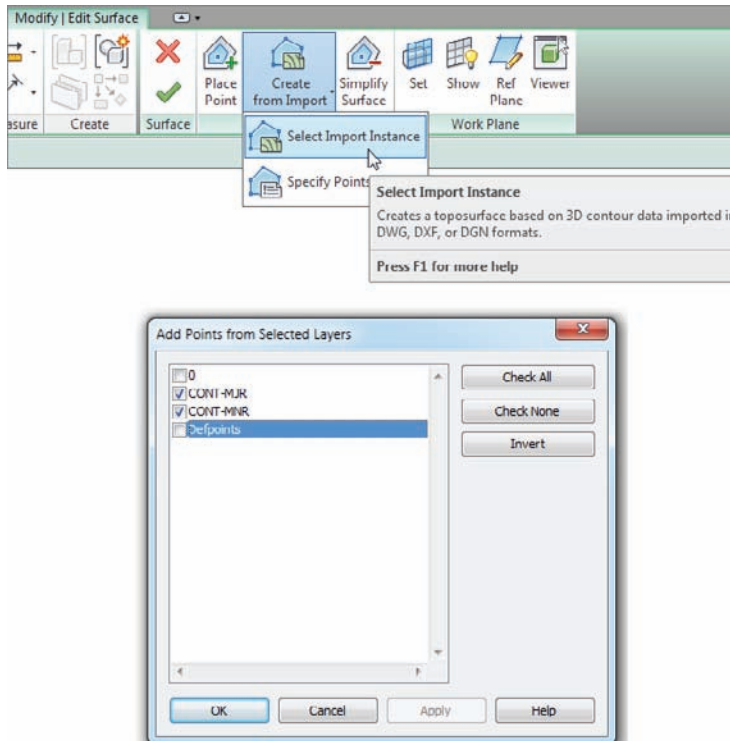

FIGURE 18.34 Adding the toposurface
2. On the Tools panel, click Create From Import > Select Import Instance, as shown in Figure 18.34.